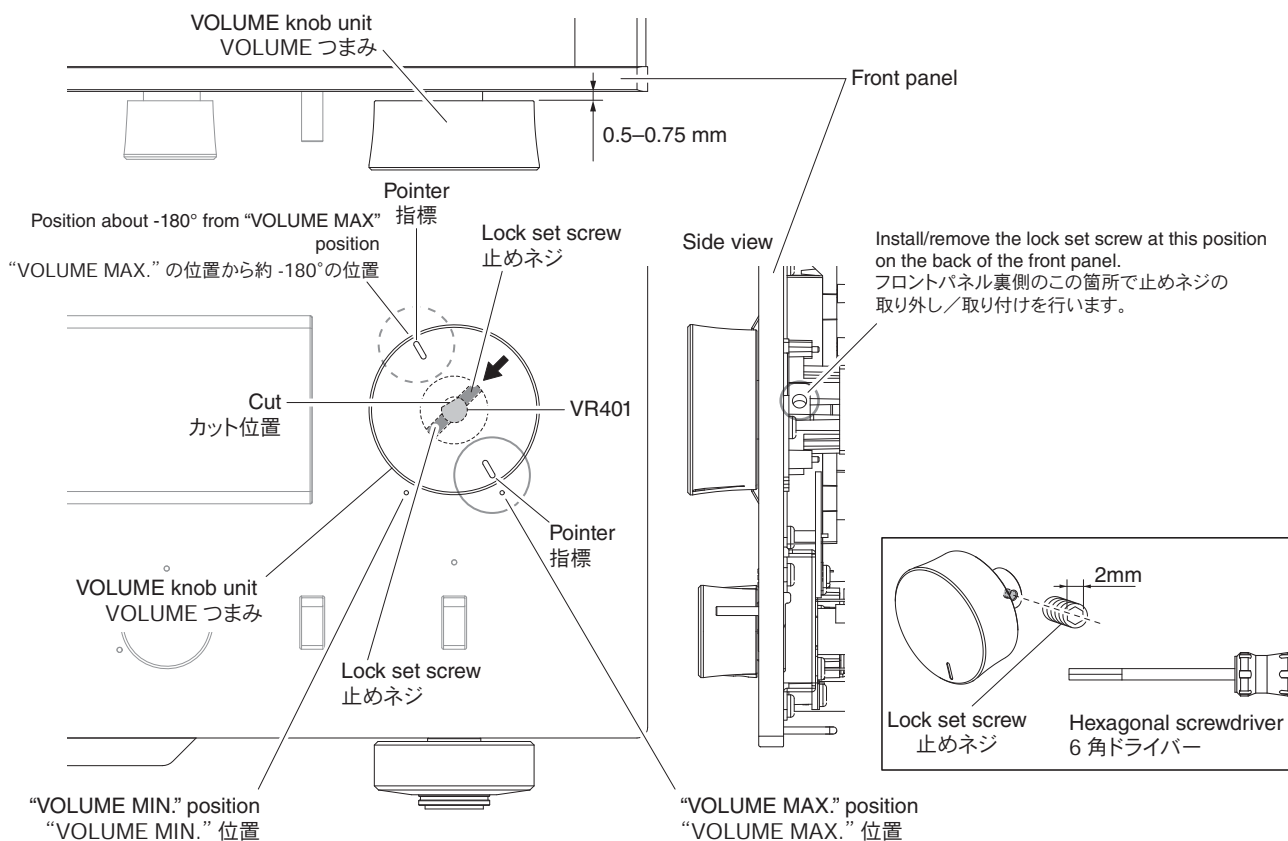

Fig. 3
- Turn the VOLUME (VR401) clockwise fully. (Fig. 3)
- Match the pointer in the VOLUME knob unit with the "VOLUME MAX." position and install it in that state. (Fig. 3)
- Keep about 0.5 mm to 0.75 mm clearance from the front panel to VOLUME knob unit. (Fig. 3)
- Tighten the lock set screw. (Fig. 3)
- Match the pointer in the VOLUME knob unit with the position about -180° from the "VOLUME MAX." position. (Fig. 3)
- VOLUME (VR401) を右いっぱいに戻します。(Fig. 3)
- VOLUME つまみの指標を "VOLUME MAX." の位置に合わせ、取り付けます。(Fig. 3)
- フロントパネルから VOLUME つまみまで 0.5 ~ 0.75mm 程度隙間をあけます。(Fig. 3)
- 止めネジを締めます。(Fig. 3)
- VOLUME つまみの指標を "VOLUME MAX." の位置から約 -180° の位置に合わせます。(Fig. 3)